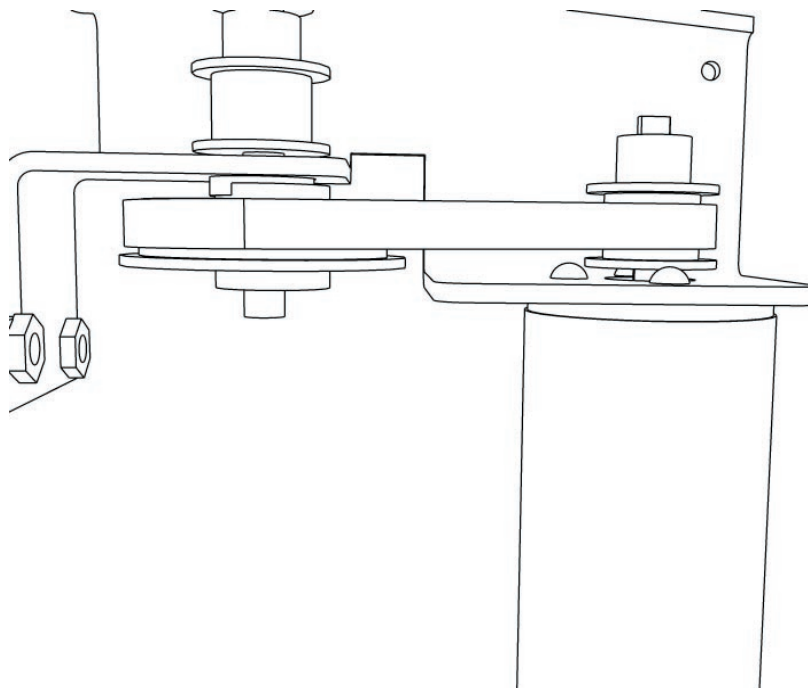

Fig. 11 - Belt is level with the transmission body when the motor is turned.
- 3) Tighten all three (3) 5/64" HEX motor mounting screws until they are fully snug.
- 4) Adjust the motor gear height so the belt is level and doesn't move up or down when the motor is turned. See fig. 11
- 4) Install the transmission on the end plate of the cutter making sure you line up the holes on the transmission body with the studs on the end plate. Tighten the nuts on the studs until they are fully snug. See fig. 11